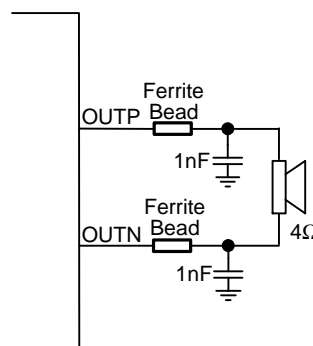
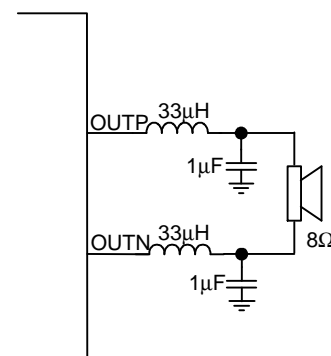
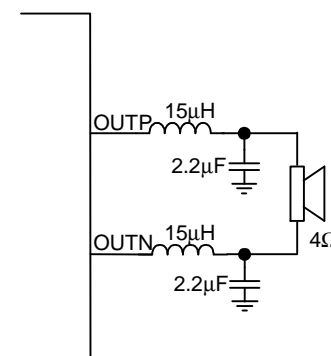

Figure 3. Ferrite Bead Output Filter
Figure 4. Typical LC Output Filter, Cutoff Frequency of 27 kHz, Speaker Impedance = 8Ω
Figure 5. Typical LC Output Filter, Cutoff Frequency of 27 kHz, Speaker Impedance = 4Ω
Figure 4 and Figure 5 are examples for added the LC filter (Butterworth), it's recommended for the situation that the trace from amplifier to speaker is too long, and needs to eliminate the radiated emission or EMI.
4. Output filter—The ferrite EMI filter (Figure 3) should be placed as close to the output terminals as possible for the best EMI performance. The LC filter (Figure 4 and Figure 5) should be placed close to the outputs. The capacitors used in both the ferrite and LC filters should be grounded to power ground.